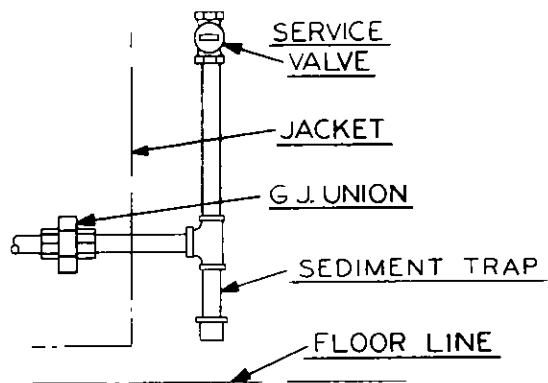

Figure 15: Gas Connection to Boiler
- 5 Install a sediment trap. See Figure 15. Locate a tee in the drop pipe at same elevation as the gas inlet connection to the boiler. Extend the drop pipe to a pipe cap.
- 6 Install a ground joint union ahead of the gas control assembly to permit servicing of the control. Some local codes require an additional service valve when using the combination gas controls. If your code requires such a valve, a suggested location is shown in Figure 15.